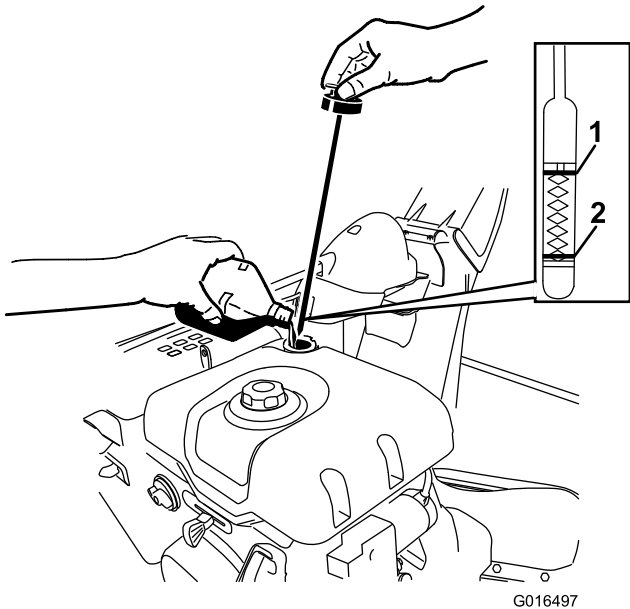

Figure 20
1. Remove the dipstick by rotating the cap counterclockwise and **slowly** pour oil into the oil fill tube to raise the oil level to the Full mark on the dipstick. **Do not overfill.** (Figure 20).